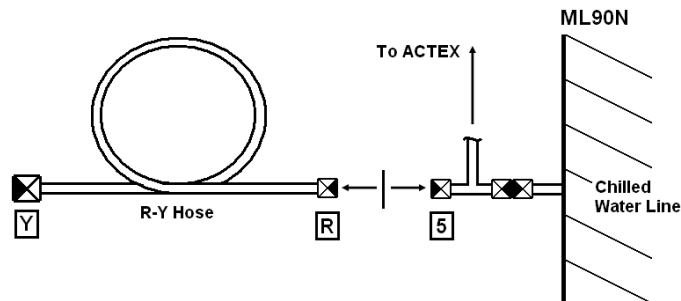

Figure 10-9.- R-Y Hose removal.
1. Disconnect R-Y Hose from Chilled Water Line Tee QD (#5) (see fig 10-9) and cap both Red and Yellow QDs of R-Y Hose